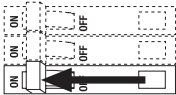

Figure 8: Wiring
5. Wire fixture to power supply (**Figure 8**):